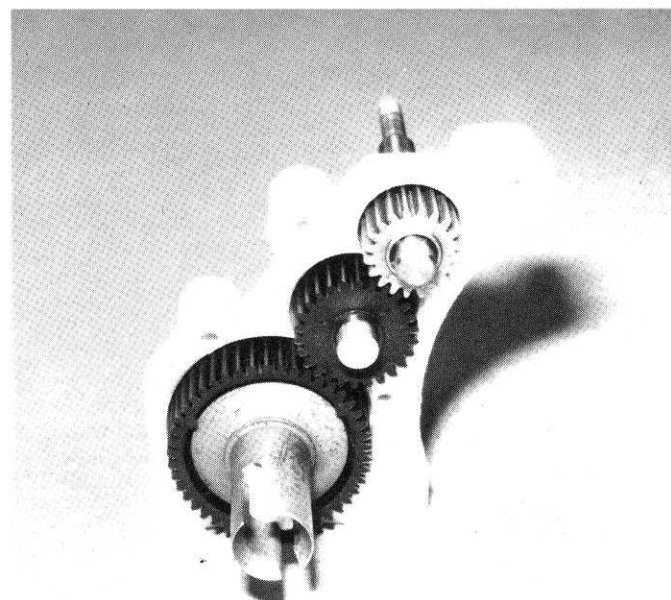

Fig. 55
□ **Fig. 55** The inside of your tranny should look like this. Slip the left hand side of your tranny onto the right hand side.